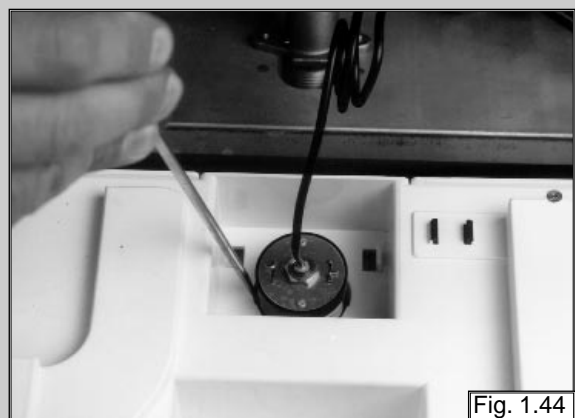

Fig. 1.44
3. Push the pressure gauge through the control panel from the rear (see fig. 1.44).